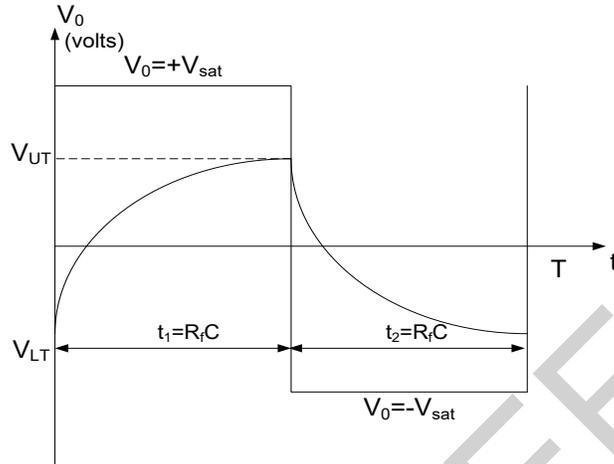

Fig 6.1
The capacitor and output voltage waveform for free running multivibrator are shown in fig 6.1.
- 1) Connect the circuit as shown in figure 6.1. Choose $C=0.022\mu\text{F}$, $R=10\text{k}$, $R_1=22\text{k}$, $R_2=10\text{k}$.
- 2) Observe the output. Draw the wave shapes. Take reading of time period (T) from the oscilloscope.